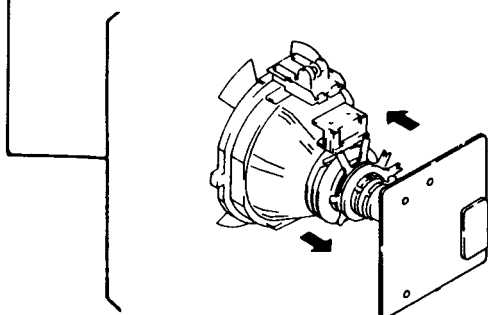

Fig. 3-1
3. Move the deflection yoke backward, and adjust with the purity control so that red is in the center and blue and green are at the sides, evenly. (Fig. 3-1~3-3)